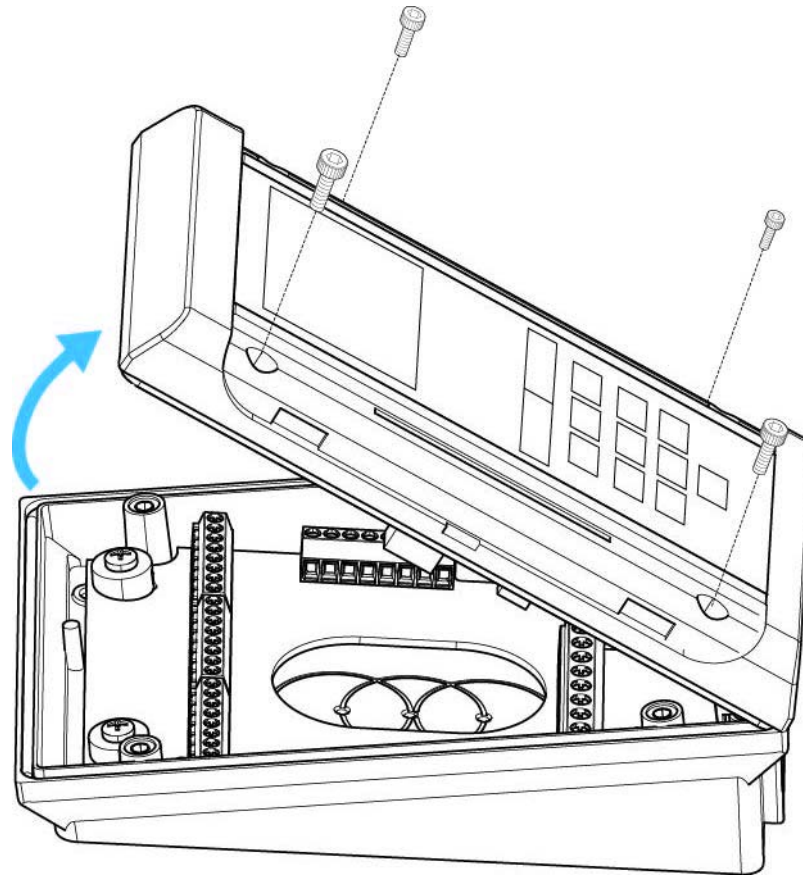

Figure 11 Opening the terminal
3. Carefully lift the top casing away from the back of the terminal, pivoting as shown in *Figure 11* Opening the terminal.